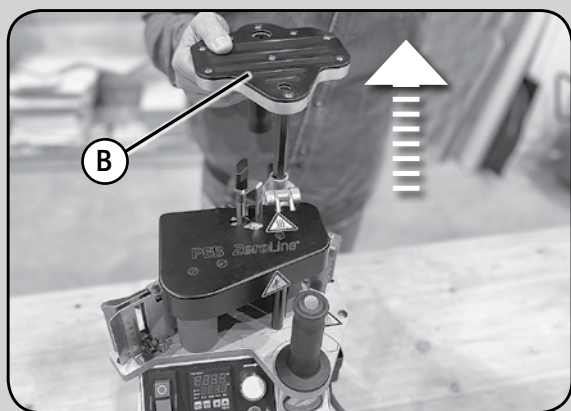
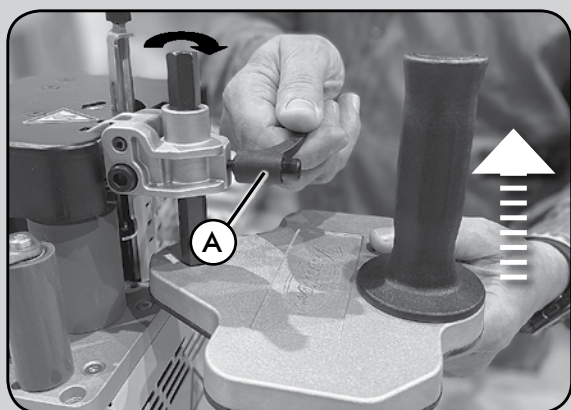

Fig. 3
Fig. 4
- Unscrew handle A (Fig. 4) and remove guide support B (Fig. 3), then assemble it as shown in (Fig. 4).